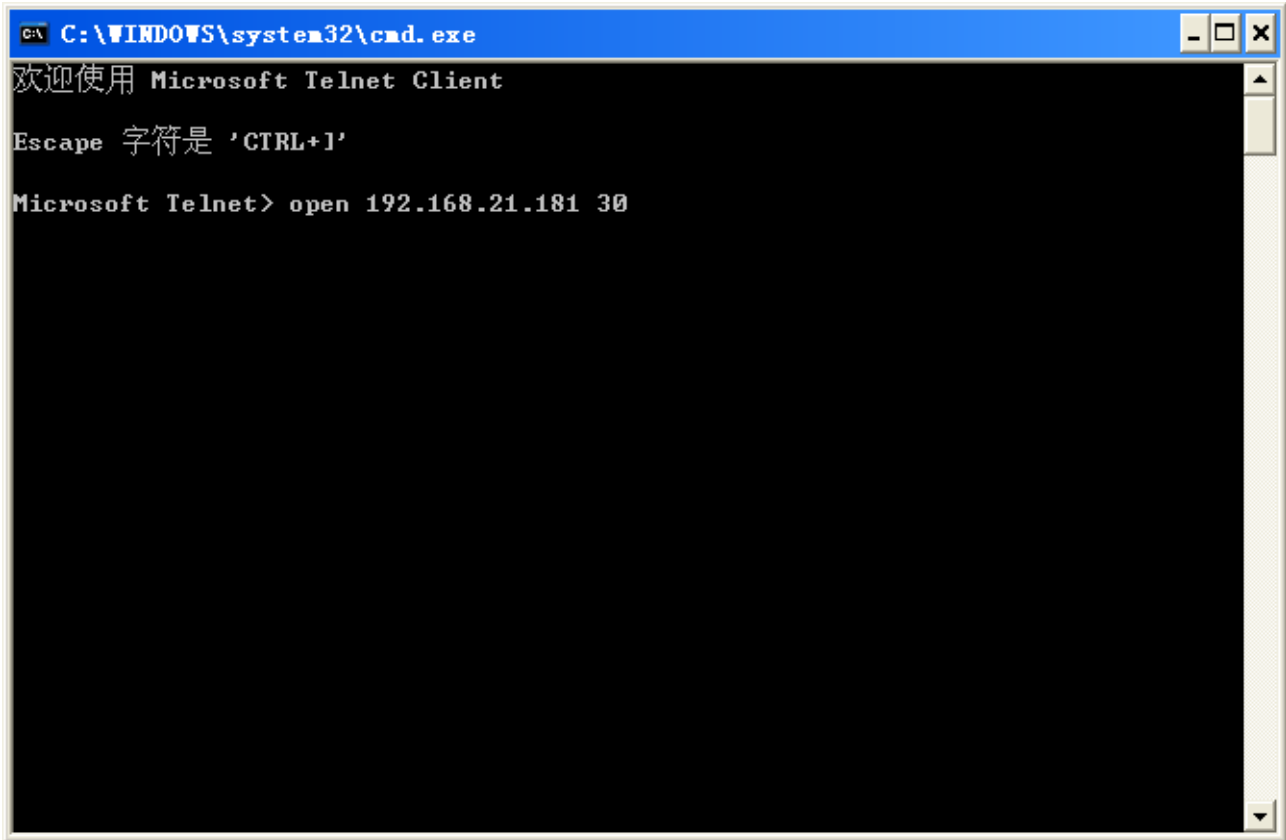

Figure 4-13 Telnet Client
- To establish connection, start the telnet client session by executing open_telnet.bat file and include the IP address assigned by the DHCP server-provided IP along with the port number as shown below in **Figure 4-13**.